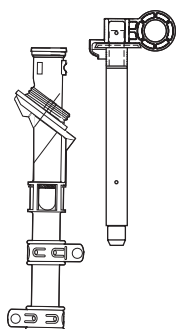

Figure 15. Silver-plated Bay-O-Net with inner fuse holder, Catalog No. 4038380B03M.
*Silver-plated Bay-O-Net with inner fuse holder. (Figure 15)	4038380B03M
* When ordering P/N 4038380B03M (Figure 15), you must order a 38 kV Bay-O-Net integral fuse cartridge listed in Catalog CA132006EN.